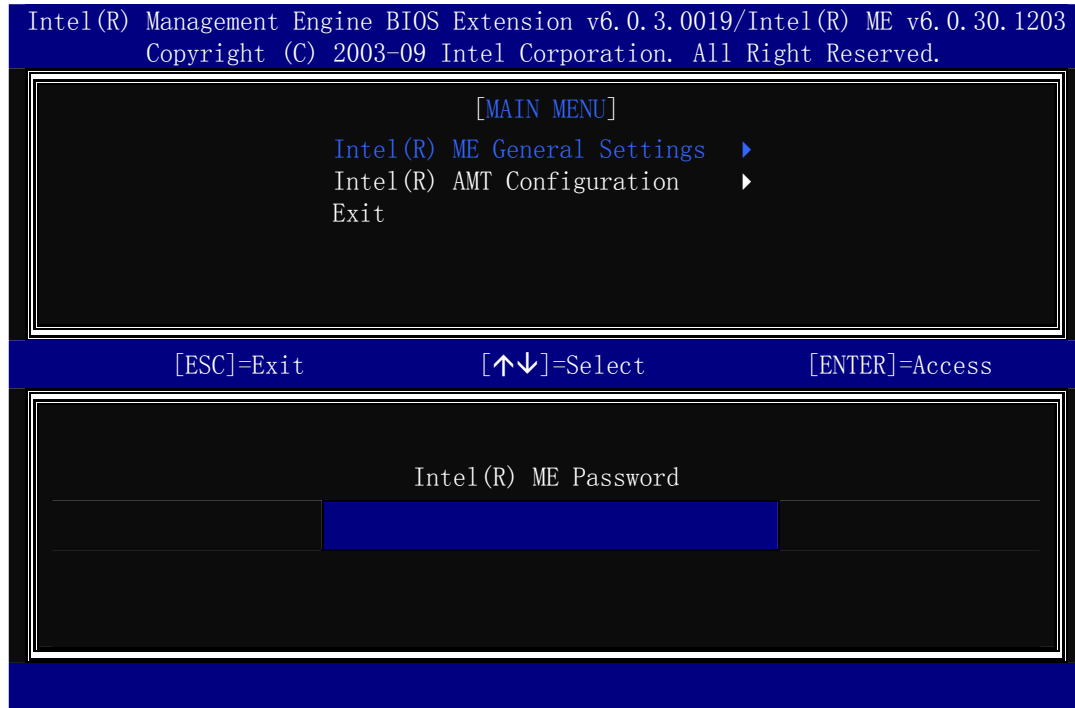

Figure A-2: Intel® Current ME Password
Step 2: Enter the Intel® ME password as it requires (**Figure A-2**). Enter the Intel® default password: **admin**.